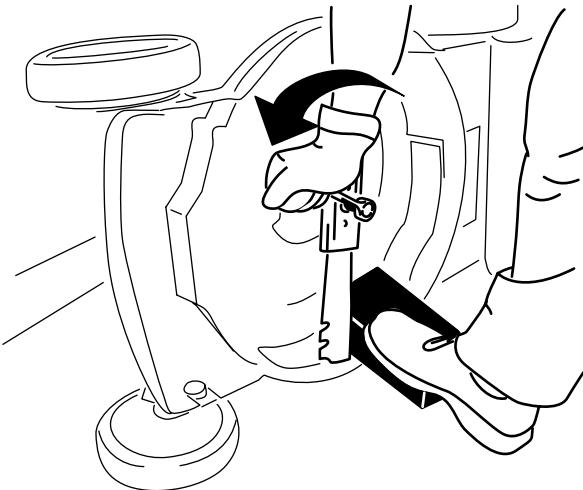

Figure 27
4. Remove the blade, saving all mounting hardware (Figure 27).